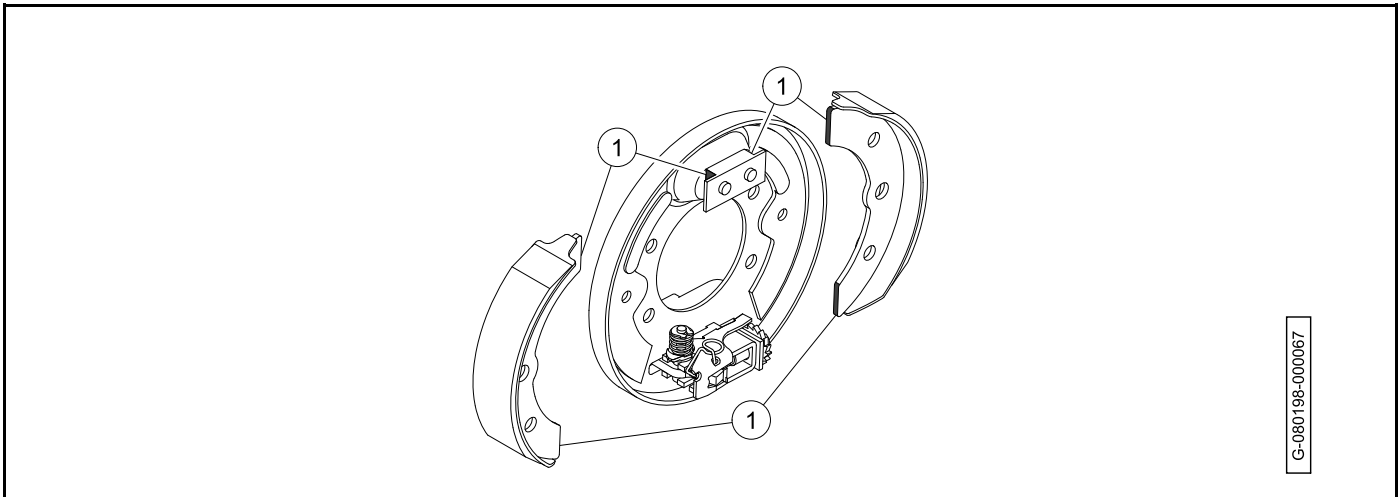

Figure 6-9
7. Use a small brush to carefully apply a light coat of white lithium NLGI #2 grease (Dow Corning® BR2-Plus or equivalent) to each end of both brake shoes and into the slots in the brake shoe mounting block as shown (Figure 6-9).